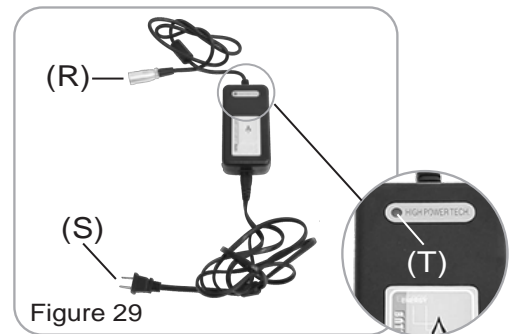

Figure 29
- Output Voltage: 100V~240V (Figure 29)
- 1.Charger output cable, 4pins  connector (R)
- 2.AC power cord (S)
- 3.LED Indicator (T)